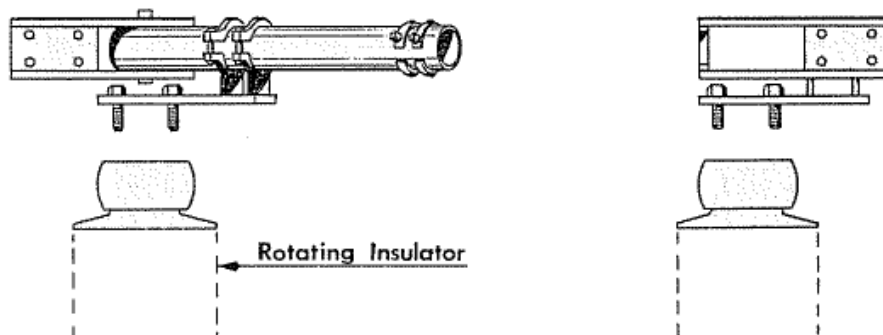

Figure 3: Mounting Live Parts
4. Mount the live parts as shown in Figure 3. The mounting bolts are captive and already in place.